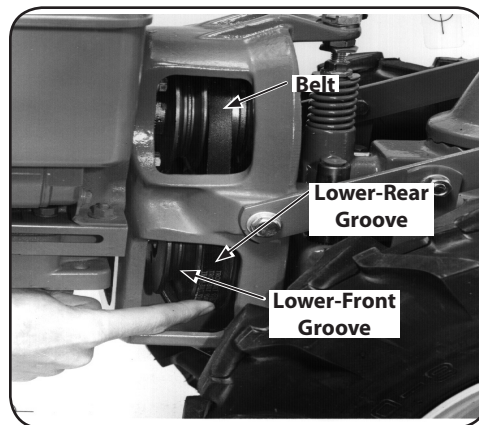

Figure 4-11
6. Go to the right side of the tiller and finish seating the belt. See Figure 4-11.